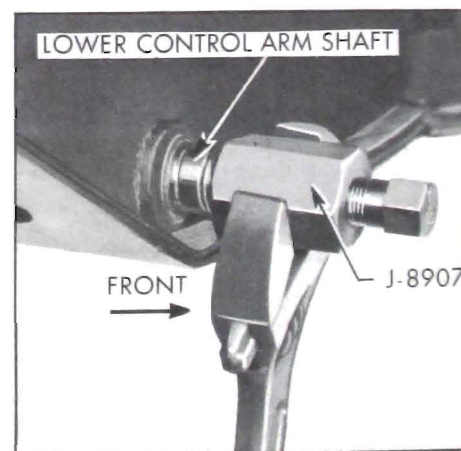

Figure 7-23—Installing Front Lower Control Arm Shaft
5. Install Installer & Remover J-8907 on front of shaft as in Step 2. Lightly coat shaft to front suspension cross member threads with lubriplate. See Figure 7-23.